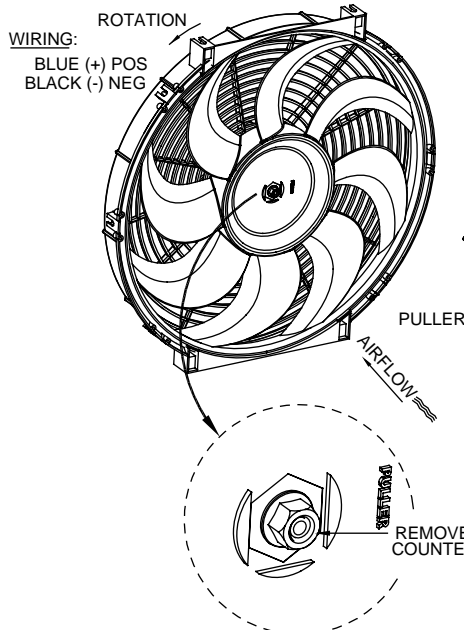

FIGURE 3
1. Disconnect power to the fan. Remove retaining nut by turning Counter-Clockwise. Figure 3